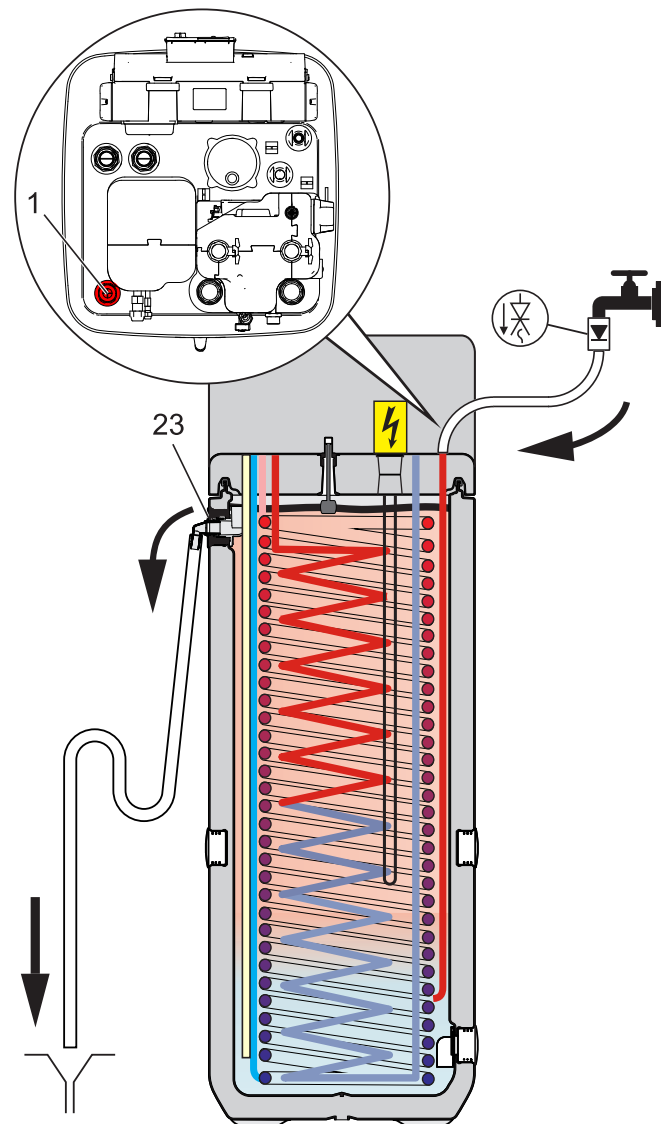

Fig. 7-1 Filling the buffer tank - without connected DrainBack solar system
- 1 Connect the **filling hose** with non-return valve (1/2") to the **"Solar - inflow"** connection (Fig. 7-1, item 1).
- 2 Fill the storage tank of the HPSU compact **until water escapes from the overflow connection** (Fig. 7-1, item 23).
- 3 Fill the storage tank of the HPSU compact **until water escapes from the overflow connection** (Fig. 7-1, item 23).